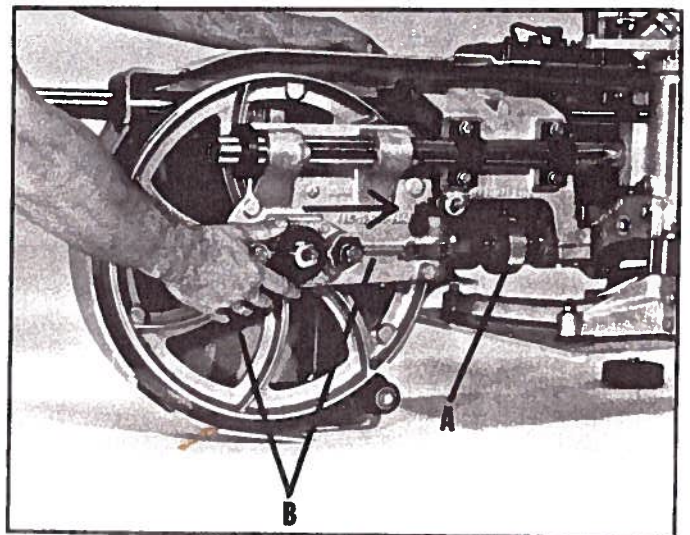

Fig. 17
3. Turn blade tension nut (A) Fig. 17, counter-clockwise by hand and slide wheel assembly (B) toward the center of saw, as shown.